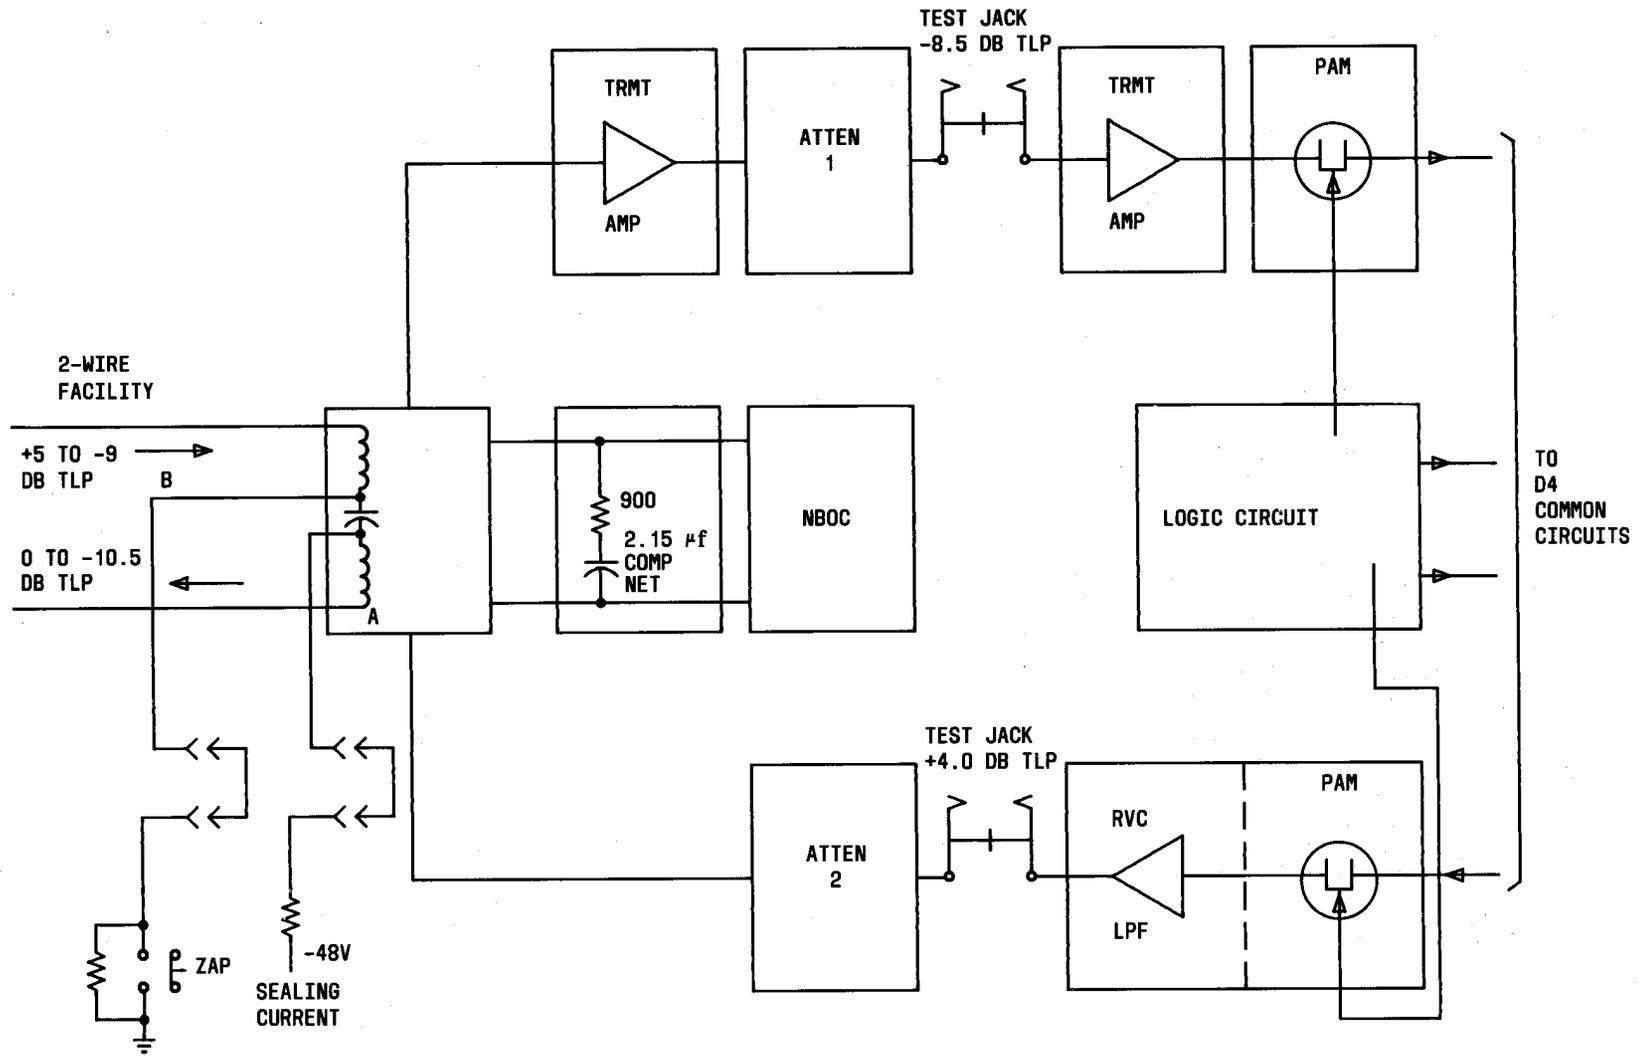

Fig. 3—2-Wire (2TO) Transmission Paths
2.04 The 2-wire, 900-ohm balanced line is converted to a 4-wire 600-ohm unbalanced circuit by means of hybrid transformer T1 (Fig. 3). The hybrid is balanced with a compromise network and an adjustable network buildout capacitor (NBOC). Optional sealing current is supplied over the A and B leads of the 2-wire facility to insure positive connection of wrapped splices in the cable. The nominal sealing current is 30 mA but may be momentarily increased to 60 mA by depressing the ZAP switch.